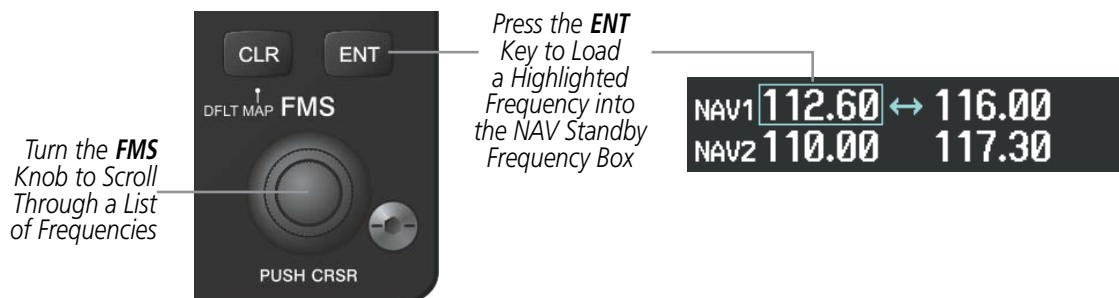

Figure 4-27 NAV Frequency Auto-Tuning from the MFD
Frequencies can be automatically loaded into the NAV Frequency Box from pages in the NRST or WPT page group by highlighting the frequency and pressing the **ENT** Key (Figures 4-27, 4-28, and 4-29).
- 3) On the Nearest VOR, Nearest Airspaces, and Nearest Airports pages, select the **FREQ** Softkey to place the cursor on the NAV frequency (Figure 4-27).